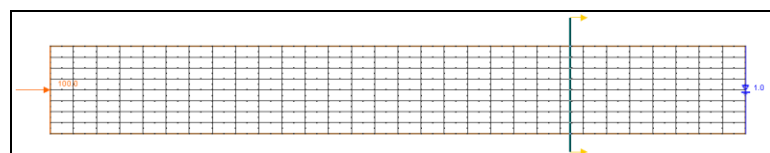

Figure 10 Placement of vertical observation arc
16. Using the **Create Feature Arc**  tool, and create a vertical arc from top to bottom across the flume at about 200 meters from the downstream boundary as shown in Figure 10.